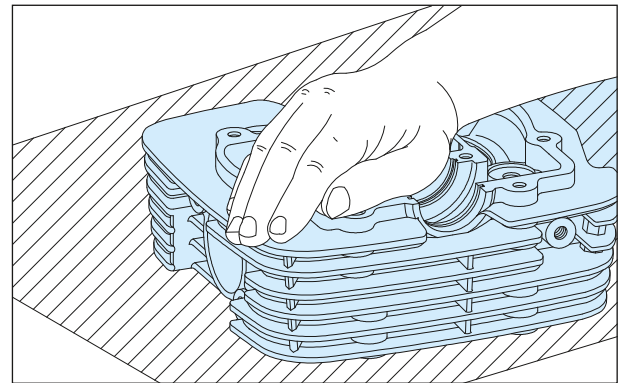

Fig. 3.113
- After cleaning the liquid gasket from the surfaces of the head complete cylinder, inspect the surface for any scratches, high and low spots. If noticed, remove them using a fine emery paper (400 grade) placed over the surface plate. (Fig. 3.113)